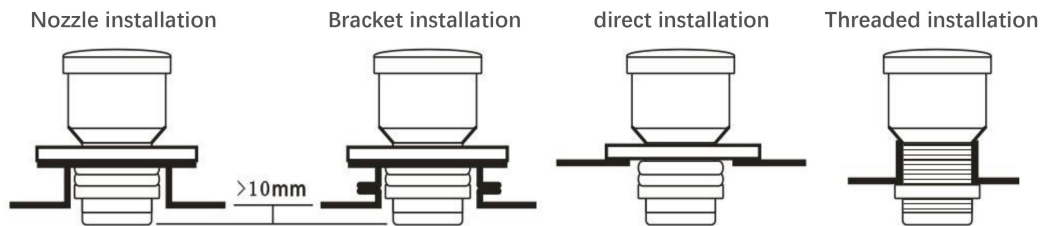

Figure 3
6.1.3 The probe can be mounted either by flange or by standard M60 x 2 thread (the mounting interface is subject to the actual product). Whether flanged or threaded, or with or without the optional tapered barrel, it should be ensured that the bottom of the probe protrudes from the bottom of the process interface. Figure 3 illustrates the proper mounting method.